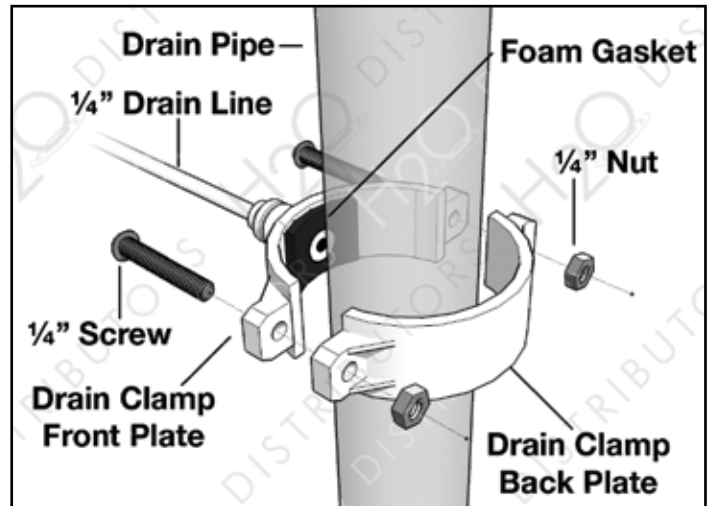

Fig. 3
3. Assemble saddle valve on tube/pipe (As shown in Figure 3)
(See Figure 3)